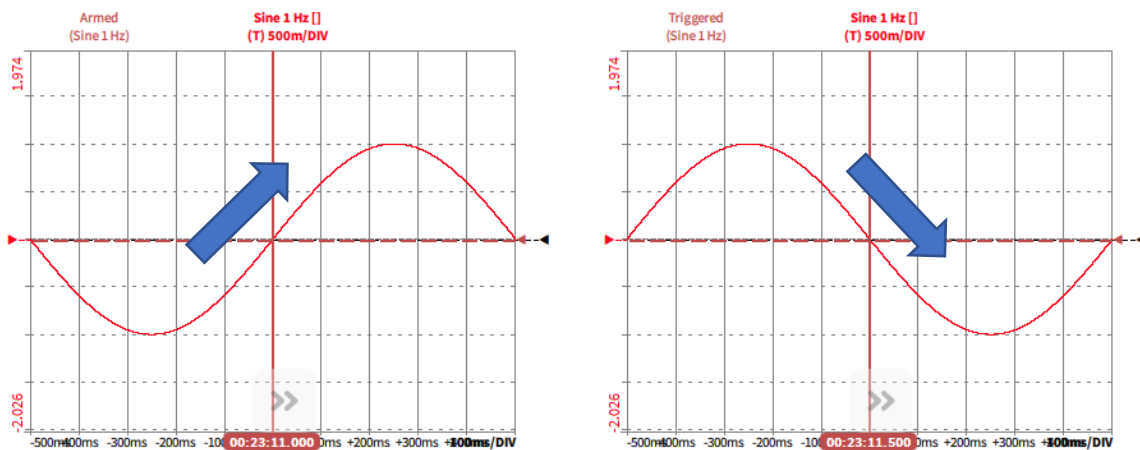

Figure 6-26: Trigger on a *Rising* (left) and on a *Falling* (right) edge
- In the *Edge* selection, the user can select if the selected signal shall be triggered on a *Rising* or on a *Falling* edge. The difference between the two modes is shown in Figure 6-26 for a 1 Hz sine wave that has an amplitude of 1.